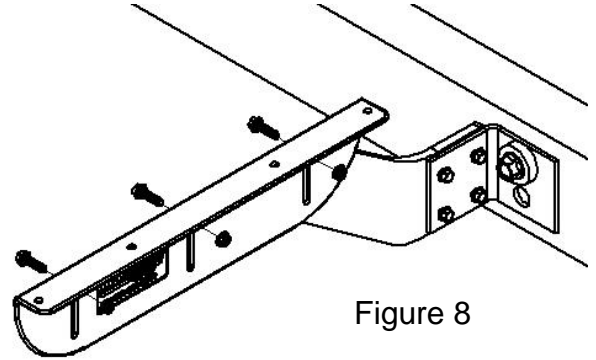

Figure 8
- a. In these cases use the plastic angle (PB5071) to connect the fenders to the center bracket assembly (Figure 8).